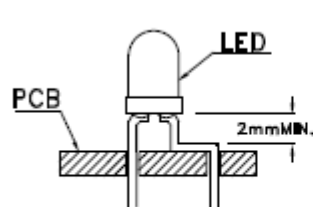

Fig. 5
1. Maintain a minimum of 2mm clearance between the base of the LED lens and the first lead bend (Fig.5 and Fig.6).